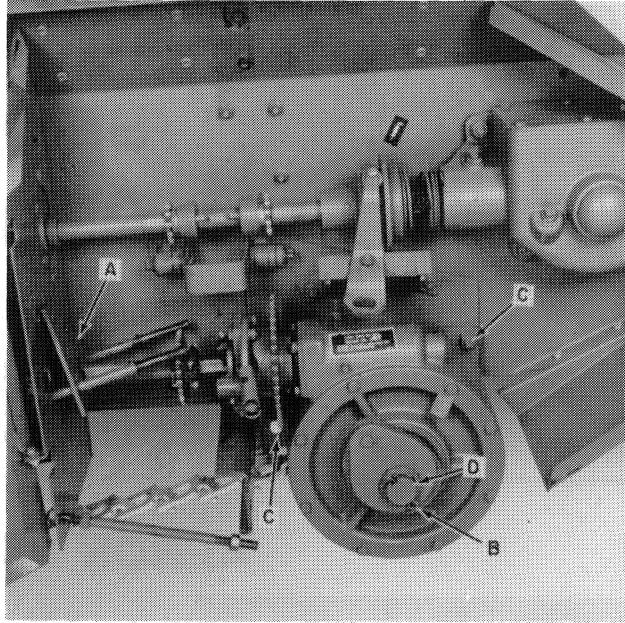

FIGURE 5
6. Remove the shifter weld assembly, A, and cotter pin, B, Figure 5. Remove the hardware at C, Figure 5, and the gearbox from shaft, D.